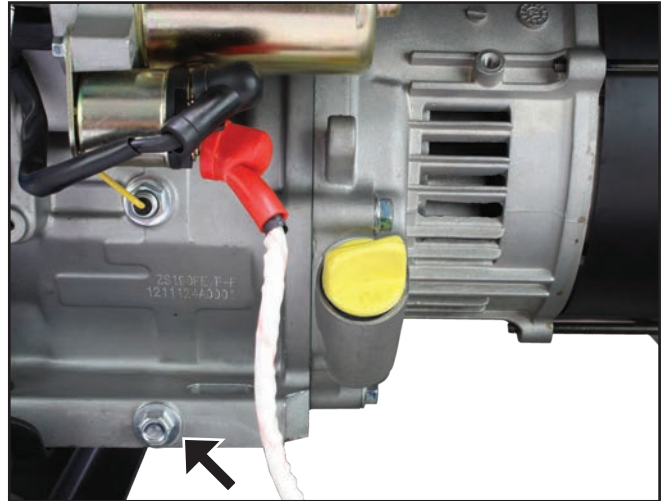

Figure 33 – Oil Drain Plug
5. Remove the oil drain plug (see *Figure 33*), and place it on a clean surface.